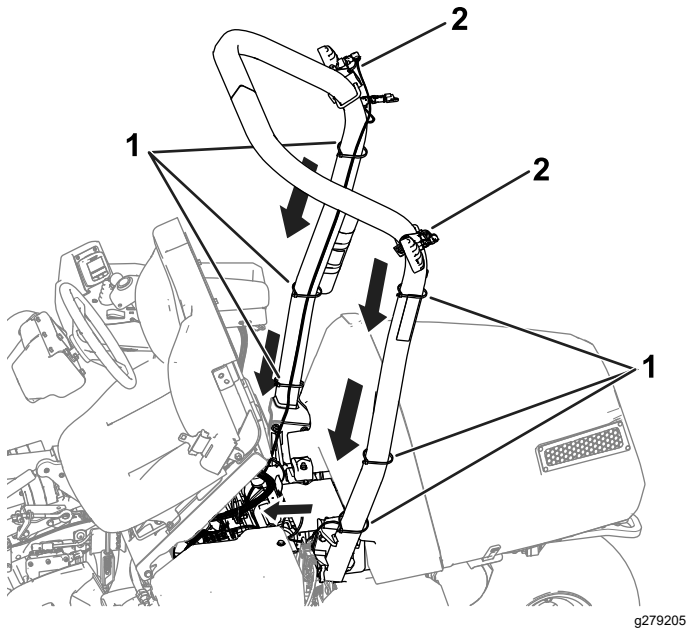

Figure 2
4. Route the wire harness down the roll bar and under the seat (Figure 2).
- Use 2 cable ties (7-1/4 inches) to secure the wire harness to the left and right brackets; refer to Figure 2.
- Use 6 cable ties (14-1/2 inches) to secure the wire harness to the roll bar; refer to Figure 2.